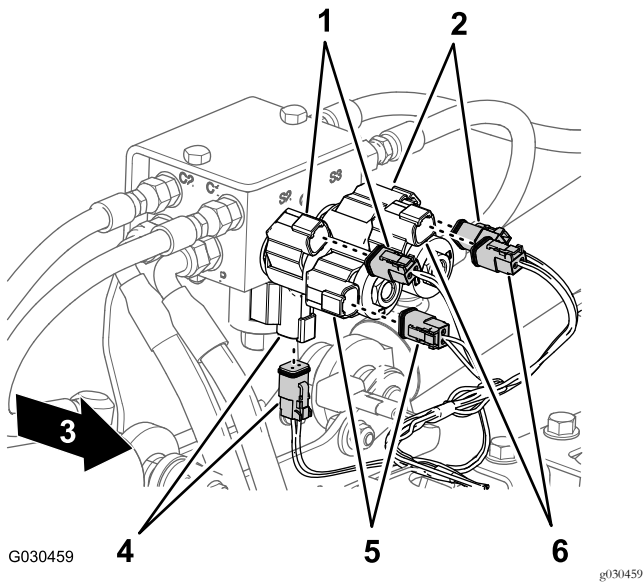

Figure 39
4. At the back of the machine, disconnect the following 2-socket connectors (Figure 39) for the lift-cylinder manifold as follows: